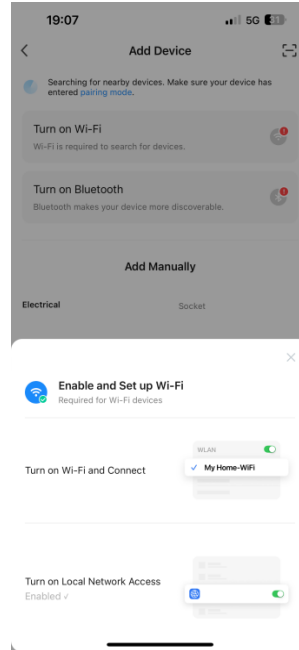

Fig.3
3.3 Tap Turn on Wi-Fi or Turn on Bluetooth to enable Wi-Fi or Bluetooth as instructed. (Fig.3, 4)